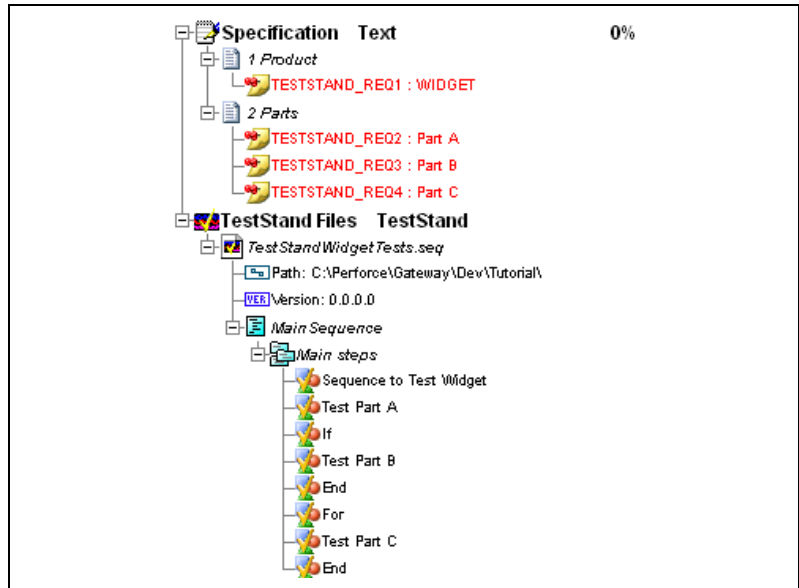

Figure 7-1. TestStand Document in Project
17. Expand the contents of the two documents in the Management View as shown in Figure 7-1. Requirements Gateway displays `TestStandWidgetTests.seq` under the TestStand Files document.